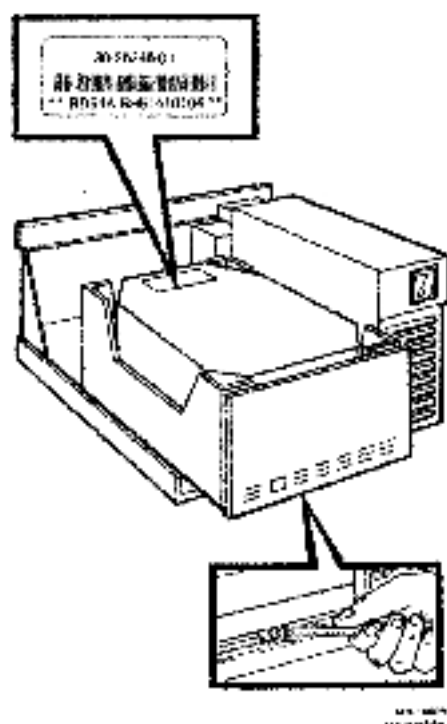

Figure 4-3 Sliding the RD54 Drive Forward
4. Press the latch with a pencil and slide the RD54 drive forward (Figure 4-3).